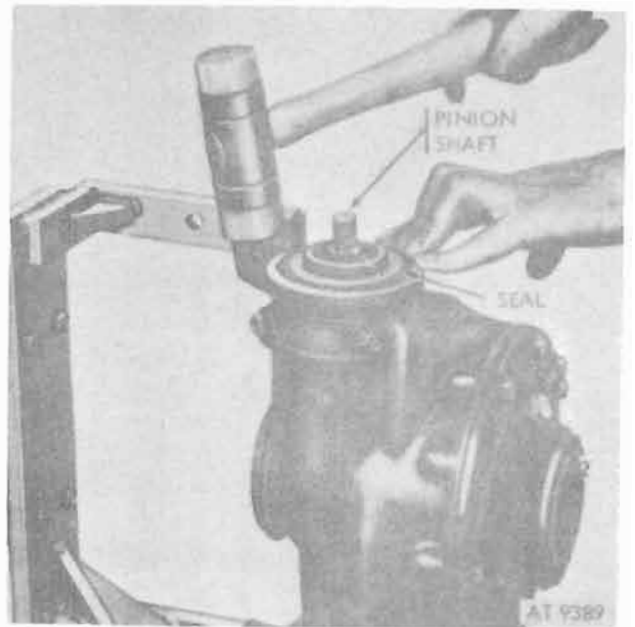

Figure 12-79. Installing pinion bearing seal.
j. Lubricate pinion shaft front seal lips with grease (GAA), and coat seating surface with compound sealer (FSN 8030-656-1426). Install seal to housing (fig. 12-79).